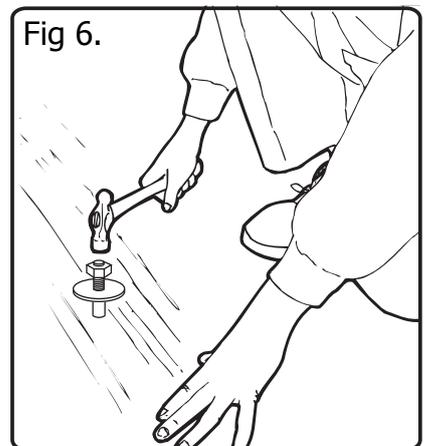

Fig 6.
5. Using the hammer insert the two rear fixing bolts into the ground leaving 65mm protruding above ground. Fig 6.